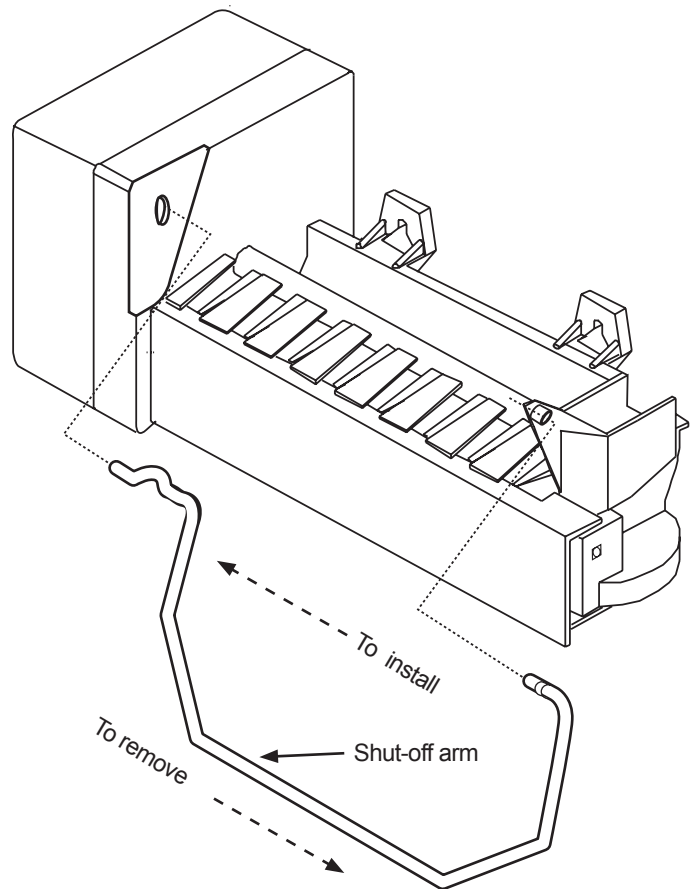

Figure 9-20. —Shut-off arm removal and installation.
9. Remove the shut-off arm. See Figure 9-20,